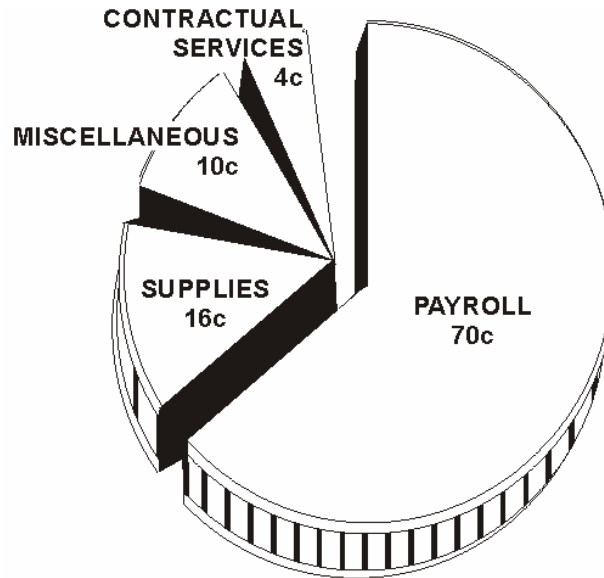

Figure 3-4. Example of the layout of the segments of a pie chart beginning with the largest to the smallest.
- (a) Draw a circle with a compass. Use a protractor to lay out each segment. The largest segment should start at 12 o'clock and go clockwise from largest to smallest. See Figure 3-4.